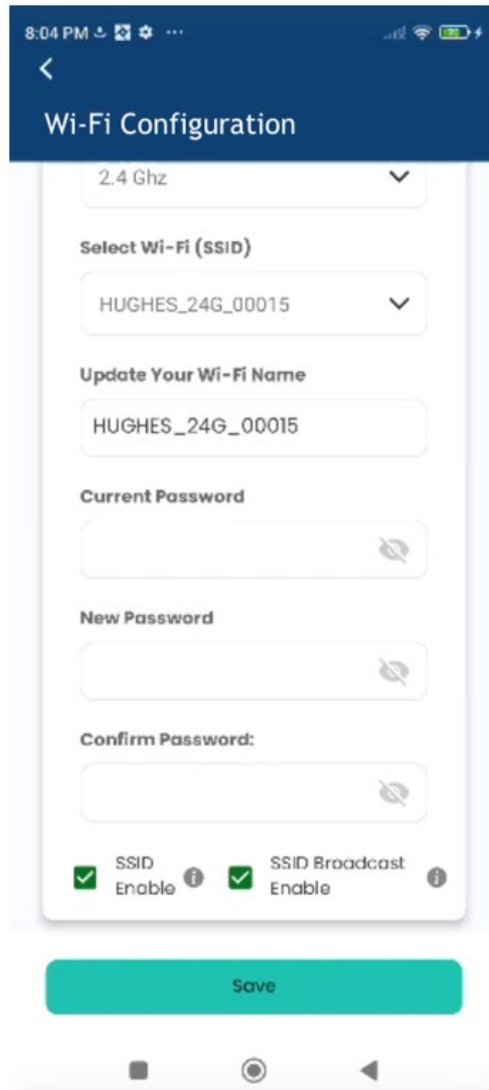

Figure 132: Change Wi-Fi configuration screen
5. Click on the **Change Wi-Fi Configuration** link to launch the screen shown in Figure 132.